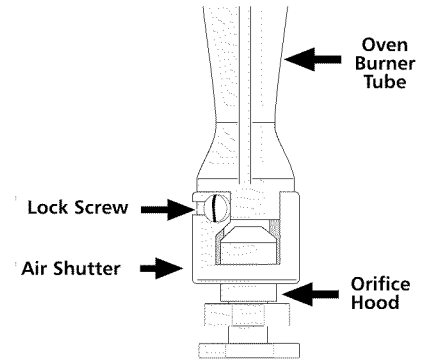

Fig. 13
- If adjustment to the air shutter is necessary, locate the broiler burner air shutter (See Fig. 13), loosen shutter lock screw, and adjust to obtain optimum flame. This will normally be completely open for LP/Propane gas. If the flame is yellow in color, increase the air shutter opening size. If the flame is a distinct blue, but lifting away from the burner, reduce the air shutter opening size. Tighten the shutter set screw.